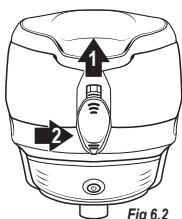

Fig 6.2
2. With one hand, push the Button Lock upwards and with the other hand, press the Shell Release Button inward (Fig 6.2) to split the Upper Shell and Lower Shell.